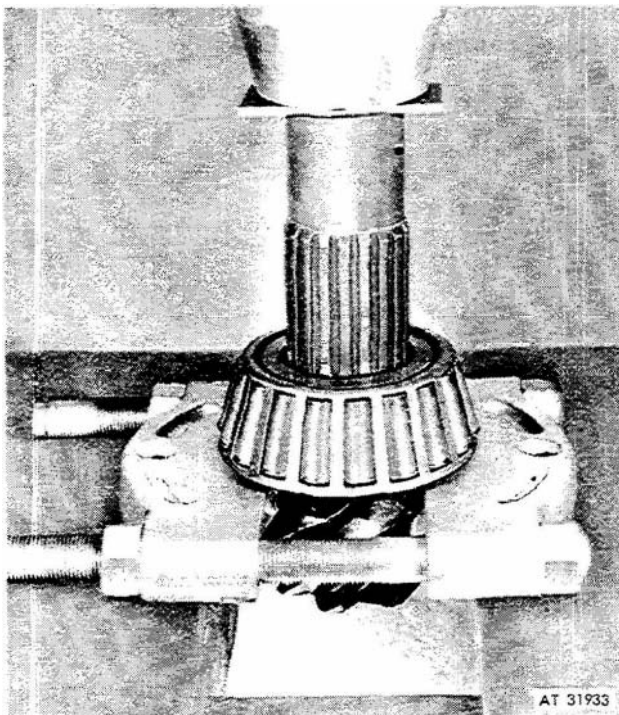

Figure 3-137. Pressing bearing from center differential pinion.
(5) Remove spacer (28, fig 3-133) from pinion and press bearingg (30) from pinion (fig 3-137).